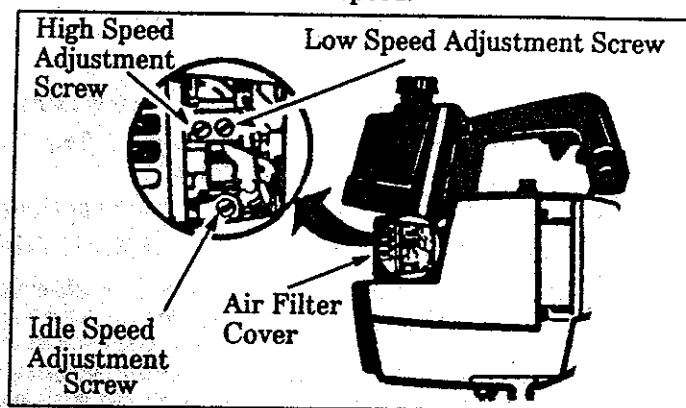

Figure 26
- Turn the Low speed Mixture Screw and the High speed Mixture Screw (Figure 26) clockwise until they stop. *Do not turn the screws until they are tight as damage to the needle seats can occur.*
- Adjust Idle Speed Screw (Figure 26) until the engine continues to run without stalling and without the trimmer head moving.
- If the engine does not accelerate smoothly**, turn the Low speed mixture Screw (Figure 26) counterclockwise ← a small amount (no more than the width of the slot in the adjusting screw).
- Turn the Low speed Mixture Screw (Figure 26) slowly clockwise → until the speed starts to drop. Note this position.
3. Turn High Speed Mixture Screw (Figure 26) very slowly clockwise  until engine speed is reduced.